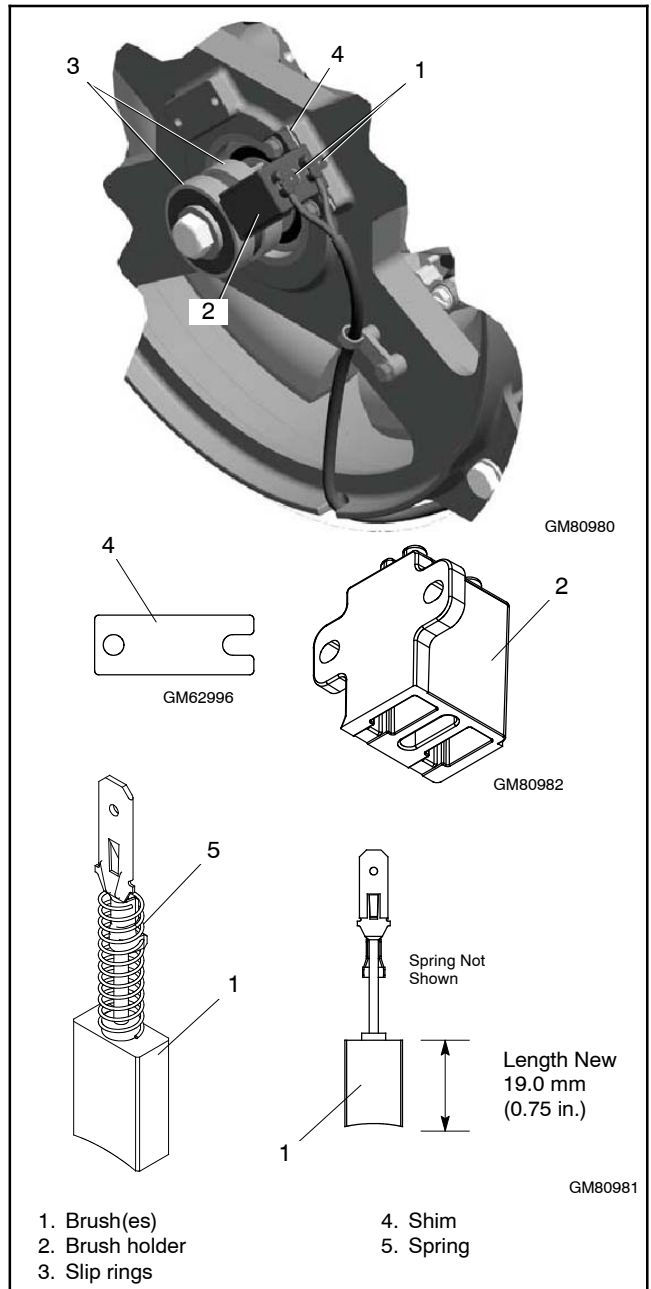

Figure 7-23 Brush Assembly
22. Remove the cable tie that attaches the brush leads to the end bracket. See Figure 7-23.
23. Check the brushes. See Figure 7-23.